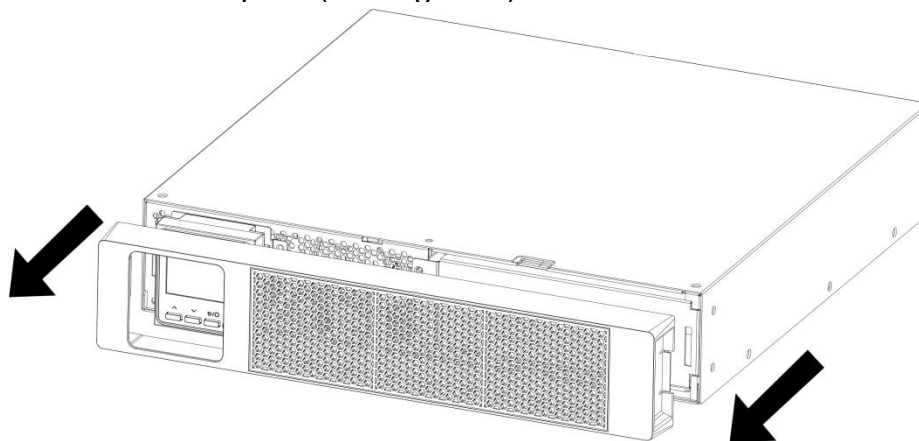

Figure 5: Remove the Faceplate
- b) Remove the faceplate (see Figure 5).